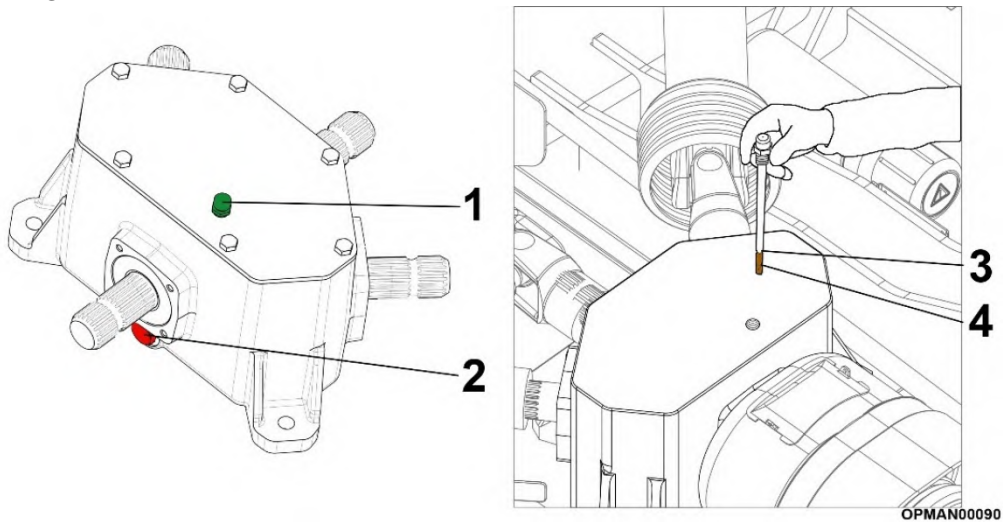

Figure 5.2 – Tuffcut Splitter Gearbox
To drain the oil, each of the gearboxes is fitted with a **drain plug**. With reference to Figures 5.2 (2) and 5.3 (2), the locations of these drain plugs can vary. If there are facilities to vacuum draw the oil out of the respective gearbox, the oil can be changed through the fill hole/dipstick location instead which is considerably easier.
The positioning of the dipstick can vary between gearboxes to check the oil level, due to their engineering restrictions; see Figures 5.2 (1) and 5.3 (1). However, they should always be at the top. The drain plugs for gearboxes are always located near the bottom of the gearbox; see Figure 5.3.
The gearbox should not require additional lubricant unless the box is cracked or a seal is leaking. It is recommended that the oil level is **checked every day before operation** and additional oil added if it's required to bring it up to the upper level mark, see Figures 5.2 (3) and 5.3 (3), **before proceeding to use the machine.** At all times the oil level should be above the lower fill mark; see Figures 5.2 (4) and 5.3 (4) as otherwise permanent damage could be caused to the gearbox. The splitter gearbox guard has a cut-out in order to check the oil level without having to open the guard.